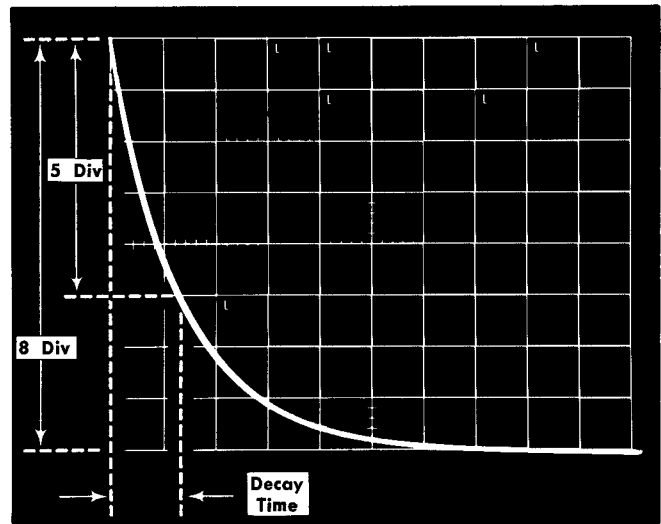

Fig. 6-27. Typical CRT display of decay time.
- h. Position the start of the trace as shown in Fig. 6-27, using the Type 2B67 Position control and the Type 2A61 POSITION control.
- i. Measure the decay time of the display as shown in Fig. 6-27.